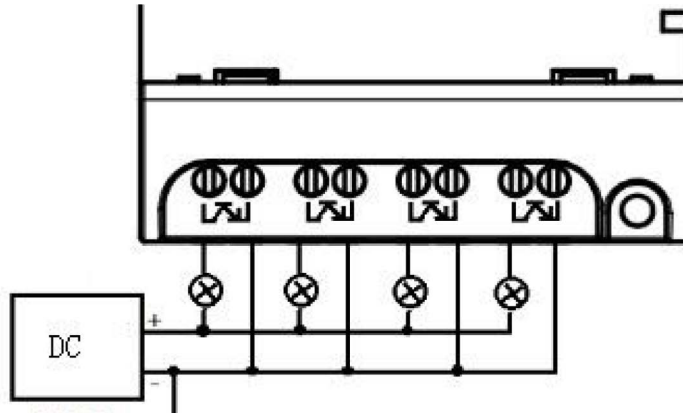

Fig 2.10 Transistor Output (D type)
1) Type D connection is shown in Fig 2.10